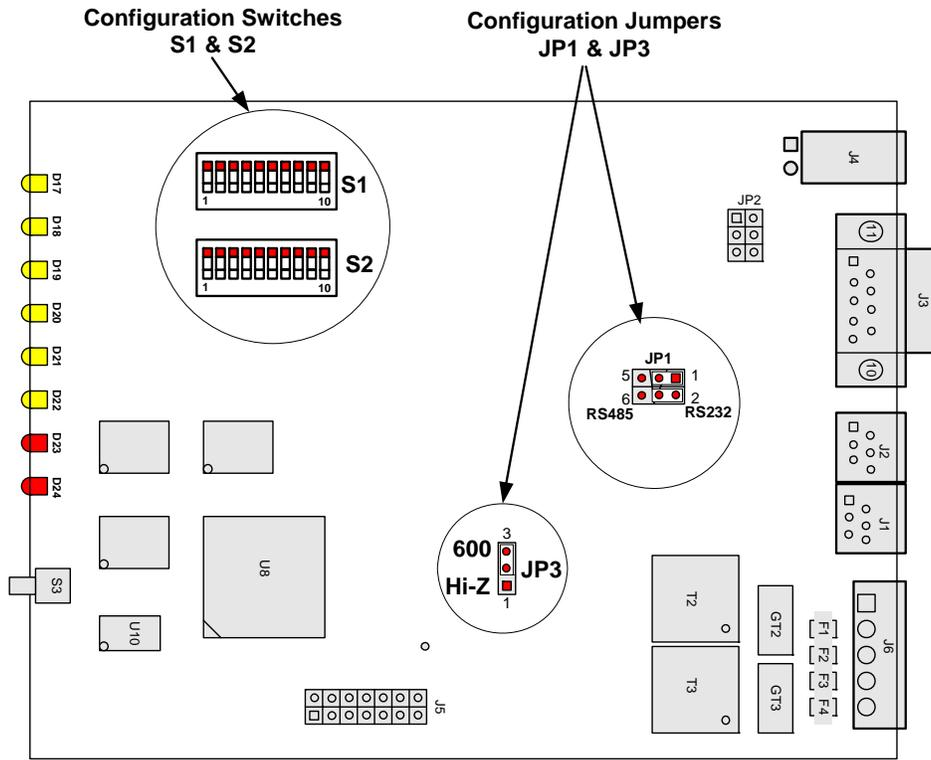
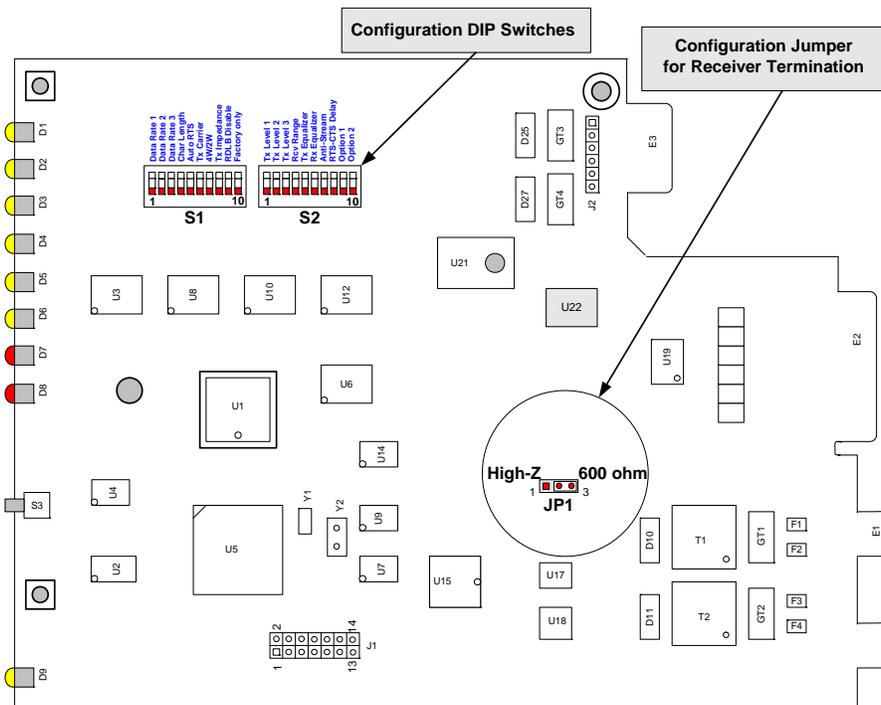

Figure 2-4. DSP19.2 Fast-Poll Stand-alone Modem Board
Figure 2-5. DSP19.2 Fast-Poll Rack-mount Modem Board
2. Use a small Philips screw driver to remove the rear panel and carefully slide the modem board out of the enclosure. The location of the DIP switches and jumpers for the stand-alone modem are shown in Figure 2-4. For DIP switches and jumpers on the rack-mount plug-in module, see Figure 2-5.